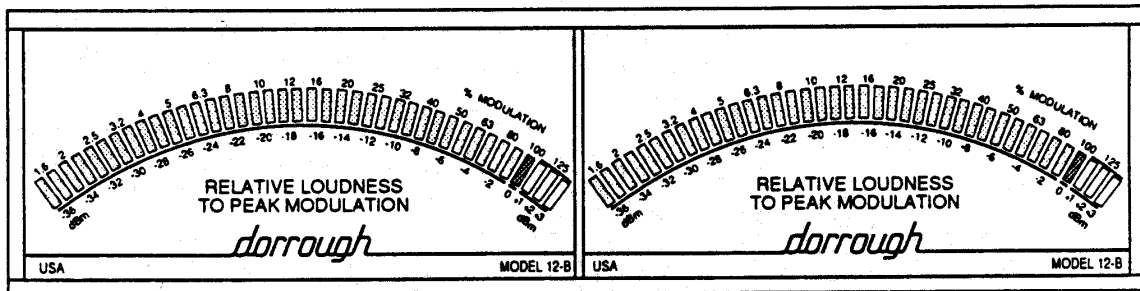

Fig. 4. Example showing Left and Rights meter indicating 0 dB.
5. Verify that the left LED meter indicates 0 dBm, as shown in Fig. 4.